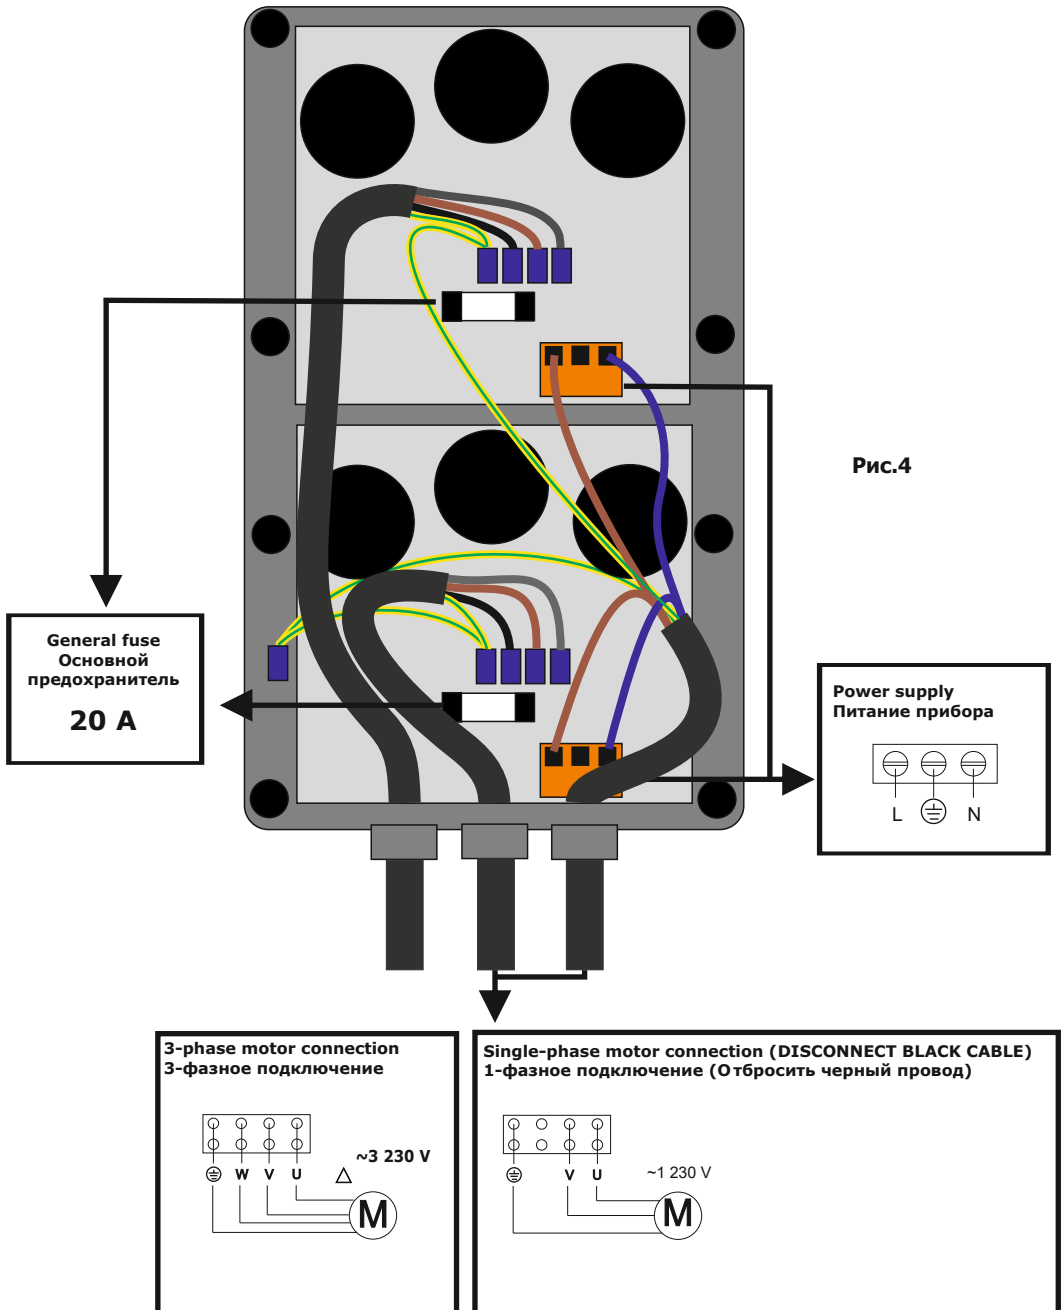

Рис.4
- Do the pump connection (fig. 4).